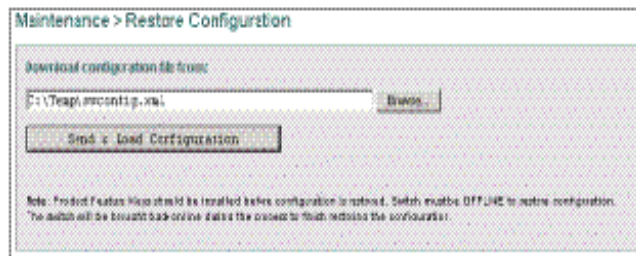

Figure 4-10 Restore Configuration View
2. Select *Restore Configuration* from the *Maintenance* menu (*Maintenance > Restore Configuration*). The *Restore Configuration View* appears (Figure 4-10).